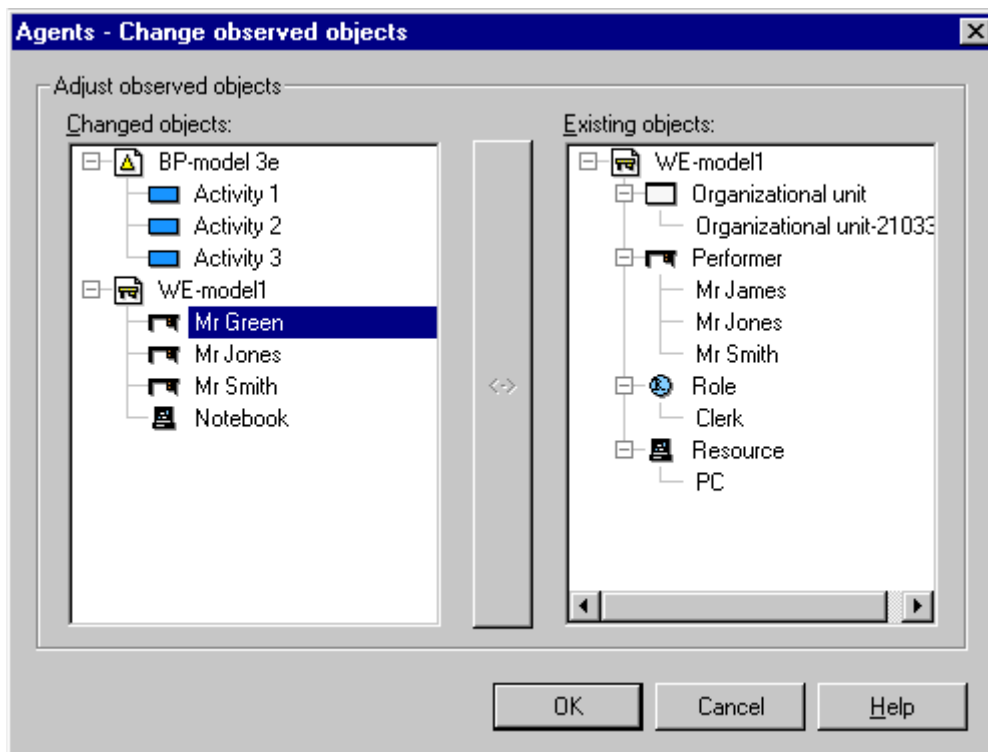

Figure 341: Agents - adjusting reference objects
**Hint:** If you change the names of modelling objects, the window "Agents - Change observed objects" (see fig. 341)) will be displayed when you call the Agent function. The references can be updated in this window.
The window "Agents - Change observed objects" (see fig. 341) will - after an appropriate query - be displayed if the names of objects observed by an agent have been changed and the agent function has been called.